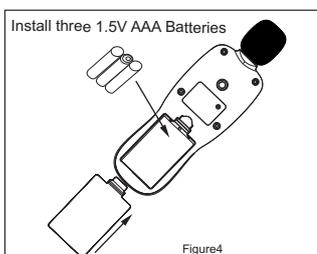

Figure4
1. Open the battery cover, put 3 AAA size batteries of 1.5V. (see Figure4).